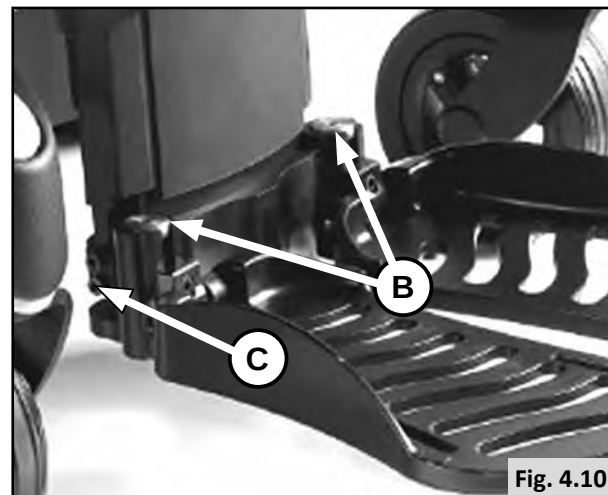

Fig. 4.10
4.4.1 Pre-set lower leg length (Fig 4.10):
- Loosen bolts and take them out (2x bottom ones) at both sides of the foot plates. (C).
- Tighten bolts (2x bottom ones). (C).
- Loosen 4 bolts (A)
- Turn screw B (fig 4.10) to adjust footplate height.
- Tighten 4 bolts (A)